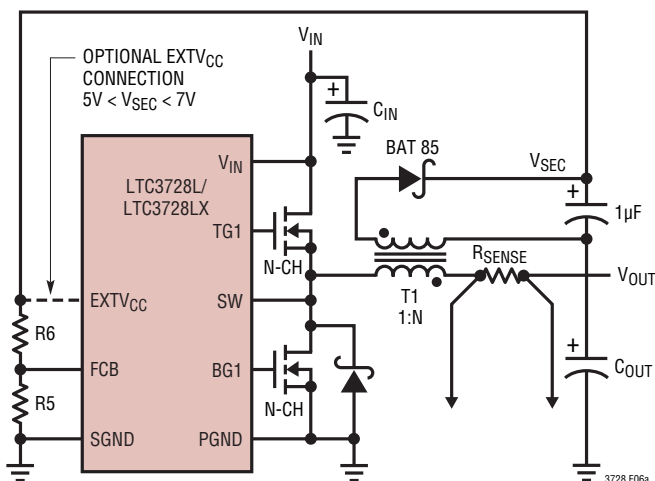
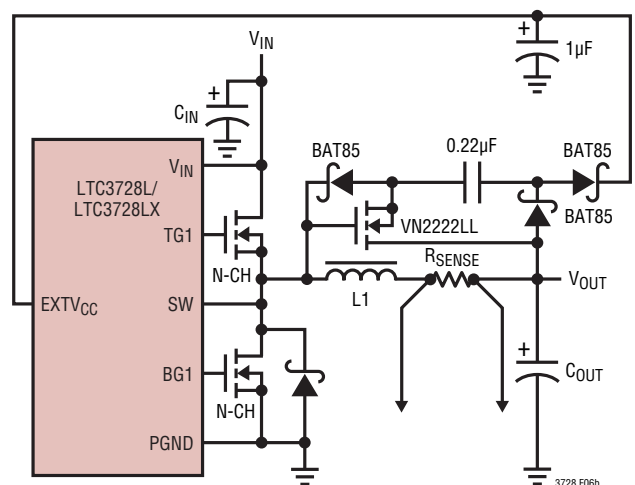

Figure 6a. Secondary Output Loop and  $EXTV_{CC}$  Connection
Figure 6b. Capacitive Charge Pump for  $EXTV_{CC}$
4.  $EXTV_{CC}$  Connected to an Output-Derived Boost Network. For 3.3V and other low voltage regulators, efficiency gains can still be realized by connecting  $EXTV_{CC}$  to an output-derived voltage that has been boosted to greater than 4.7V. This can be done with either the inductive boost winding as shown in Figure 6a or the capacitive charge pump shown in Figure 6b. The charge pump has the advantage of simple magnetics.
The secondary output voltage,  $V_{\text{SEC}}$ , is normally set as shown in Figure 6a by the turns ratio  $N$  of the transformer: